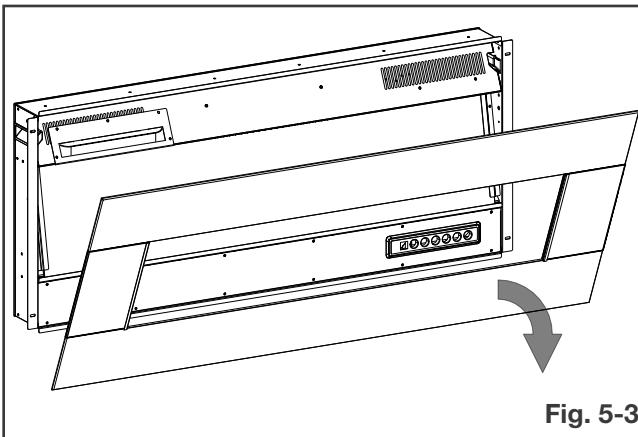

Fig. 5-3
- Place the front surround face-down on a soft, non-abrasive surface (**Fig. 5-3**).